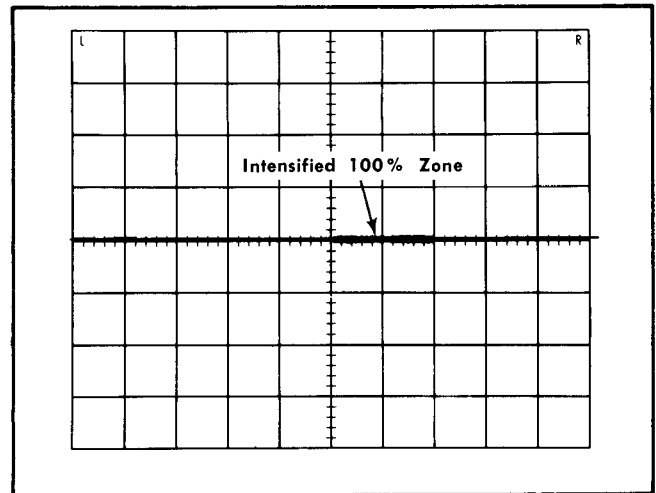

Fig. 6-31. Typical CRT display of Digital Readout Intensification with real time Plug-In Units.
- c. Check—For an intensified portion of the display (Fig. 6-31).